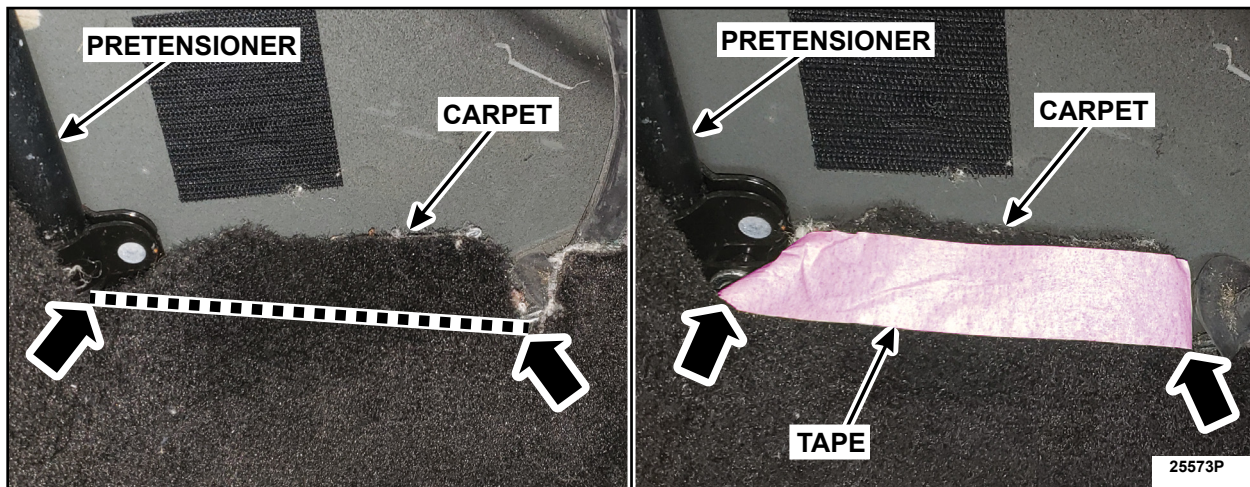

FIGURE 3
12. On both sides, apply tape to the carpet in the area shown. See Figure 3.